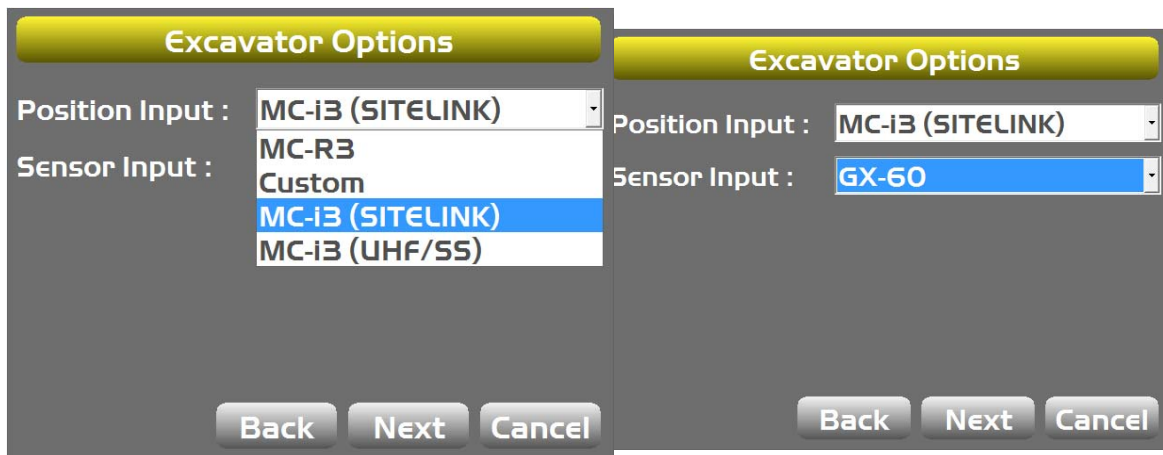

Figure 21: Select the Appropriate Position and Sensor Input
4. Tap **Next** to navigate to the **Excavator Options** screen and select **MC-R3**, **MC-i3 (SITELINK)**, or **MC-i3 (UHF/SS)** as the **Position Input** (Figure 21 on page 22).